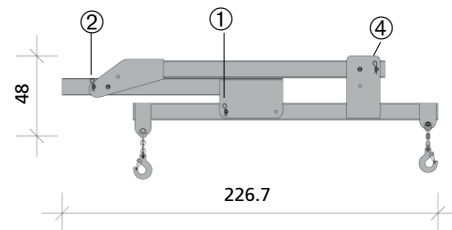

Fig. 16.1
The transport spreader must be folded and secured with a head bolt 16/90 and a cotter pin 4 at positions ②, ① und ④ (Fig. 16.1).